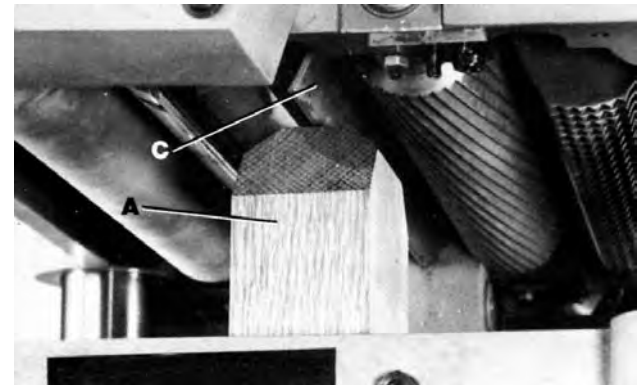

FIGURE 22
4. Place the gauge block (A) Fig.22 minus the feeler gauge, under one end of the chipbreaker (C) as shown. The bottom of the chipbreaker (C) should just touch the top of the gauge block, as shown.